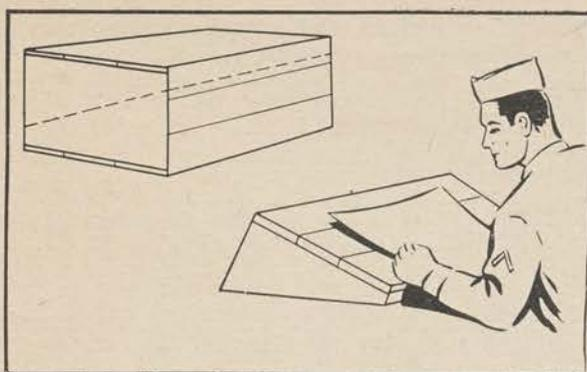

Figure 11.
a. A crate, sawed at the angle indicated by the dotted line, makes a useful work table or drawing desk (fig. 11).